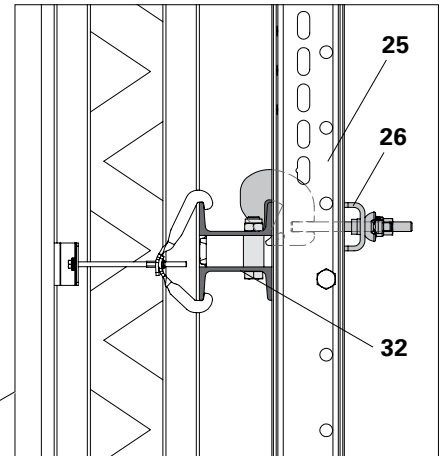
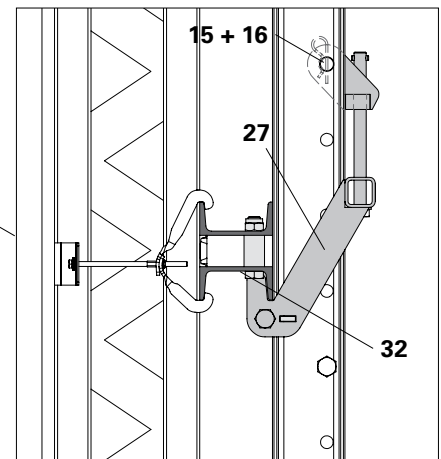

Fig. C1.07a
Fig. C1.07b
2. Position the Strongback SRU U120 (25) on the top waling (32) with Waler Fixation SRU (26). (Fig. C1.07a)
3. Pull the Adjusting Unit SRU external (27) over the bottom end of the Strongback.
4. Mount the top part of the Adjusting Unit on the Strongback using fitting pins Ø 21 (15) and cotter pins 4/1 (16).
5. Spindle in the bottom part of the Adjusting Bolt SW 30 until it rests against the waling. (Fig. C1.07b)